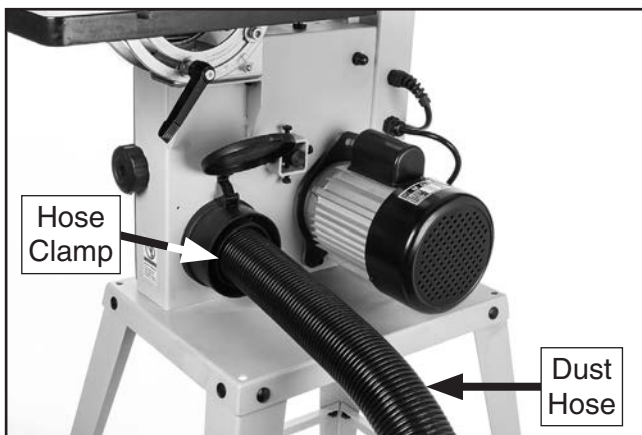

Figure 19. Example of 2" dust hose attached to dust port.
1. Fit 2", 3" or 4" dust hose over dust port, as shown in **Figure 19**, and secure it in place with a hose clamp.